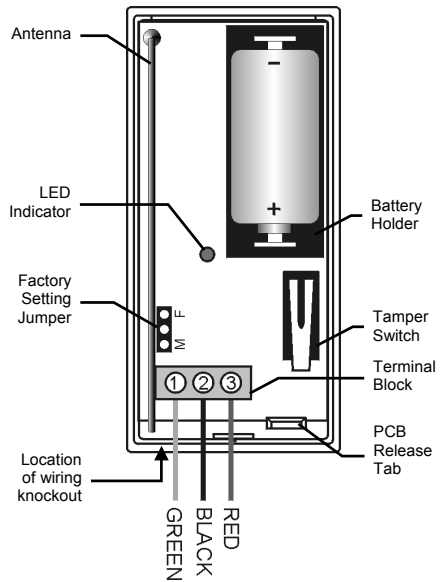

Figure 2: INF-FLOOD Transmitter (Cover Off)
10. Connect the sensor's cable to the terminal block as shown in *Figure 2*.